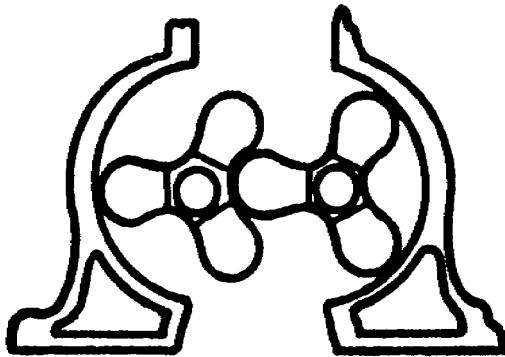

Figure 1-13. Blower.
(2) Two-Stroke cycle diesel engines. In two-cycle diesel engines, it is necessary to force air into the cylinders and force exhaust gases out. One way to do this is to use a supercharger or "blower". The General Motors (GM) two-cycle diesel uses a positive displacement type blower to force air into the cylinders (Figure 1-13).